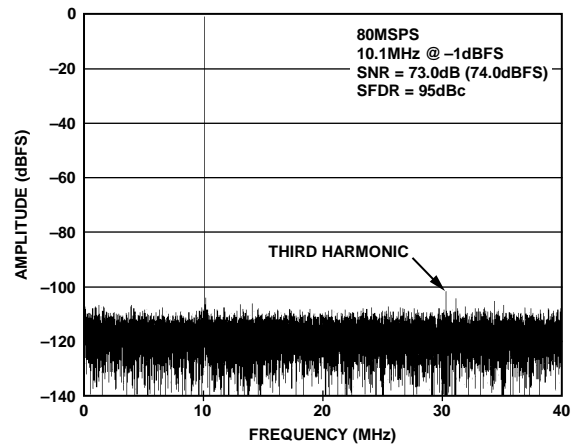

Figure 16. Typical FFT, AD9644
3. Click the disk icon within the graph for Channel A to save the performance plot data as a .csv formatted file. See Figure 16 for an example.